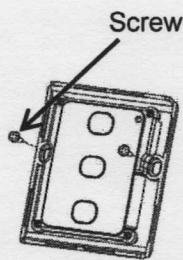

Figure 2
2. Fix the wireless wall switch on the wall with 2 screws (Fig.2)